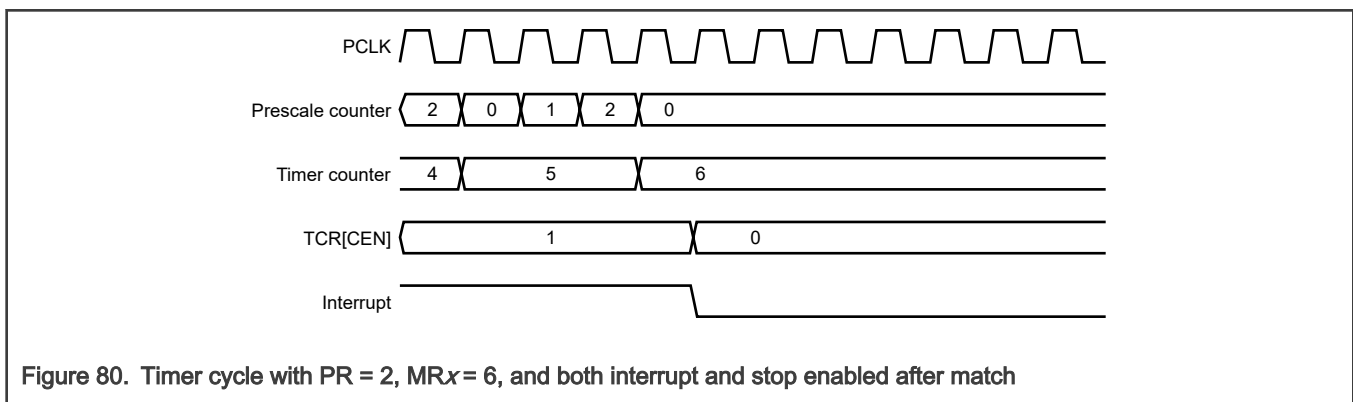

Figure 80. Timer cycle with PR = 2, MRx = 6, and both interrupt and stop enabled after match
Figure 80 shows a timer configured to stop and generate an interrupt after a match. The value of **Prescale (PR)** is 2 and the value of **Match (MR0 - MR3)** is 6. In the next clock after the timer reaches the match value, **TCR[CEN]** becomes 0 and the interrupt indicating that a match has occurred is generated.